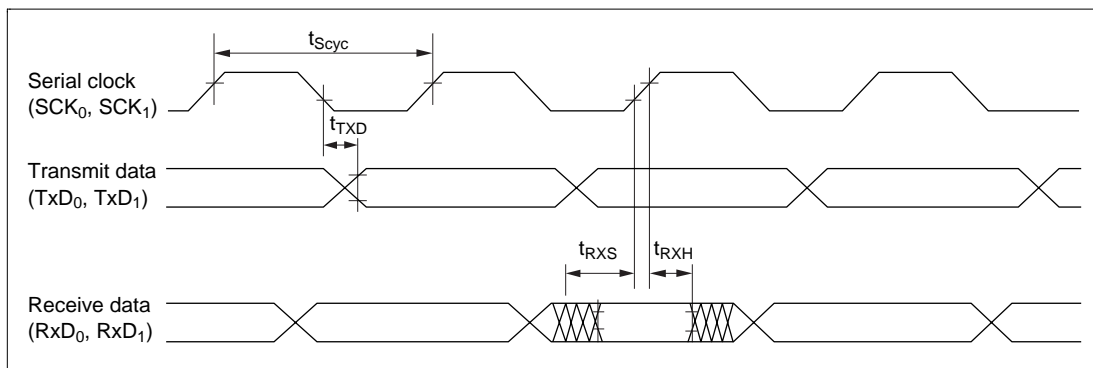

Figure 19.15 SCI Input/Output Timing (Synchronous Mode)
19.3.5 SCI Timing	Figures 19.15 and 19.16